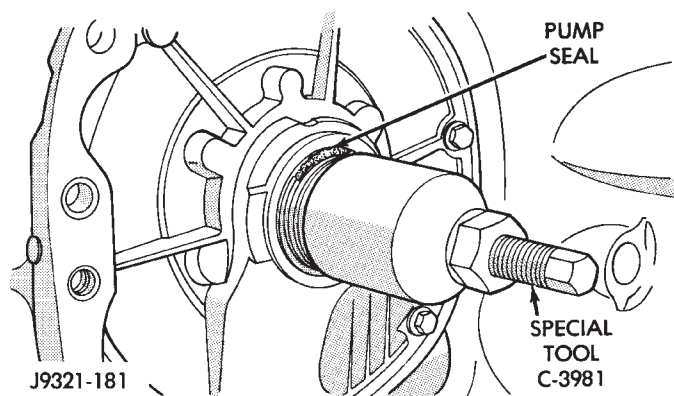

Fig. 8 Oil Pump Seal Removal
- (13) Remove pump oil seal with Special Tool C-3981 (Fig. 8). Be sure to tighten tool threads completely into seal before using puller bolt to withdraw seal.